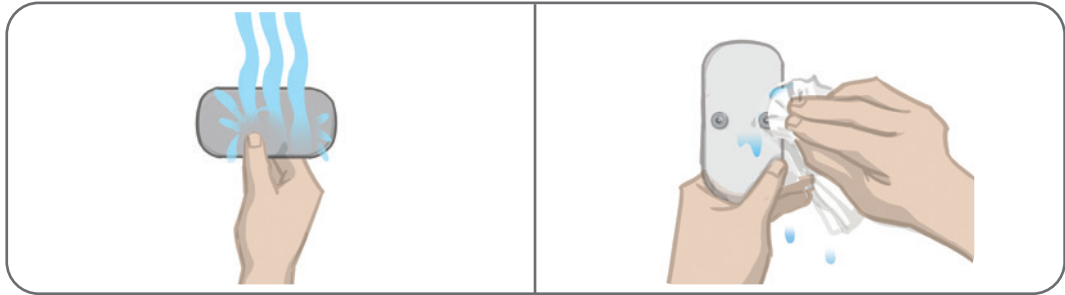

Figure 6-3: Wetting the Electrode and Removing Excess Water
3. Wet the Thigh Cloth Electrodes with water. See Figure 6-3. Gently squeeze the Thigh Cloth Electrodes together.
4. Remove excess water from the snap side of the Thigh Cloth Electrodes with a cloth. See Figure 6-3.